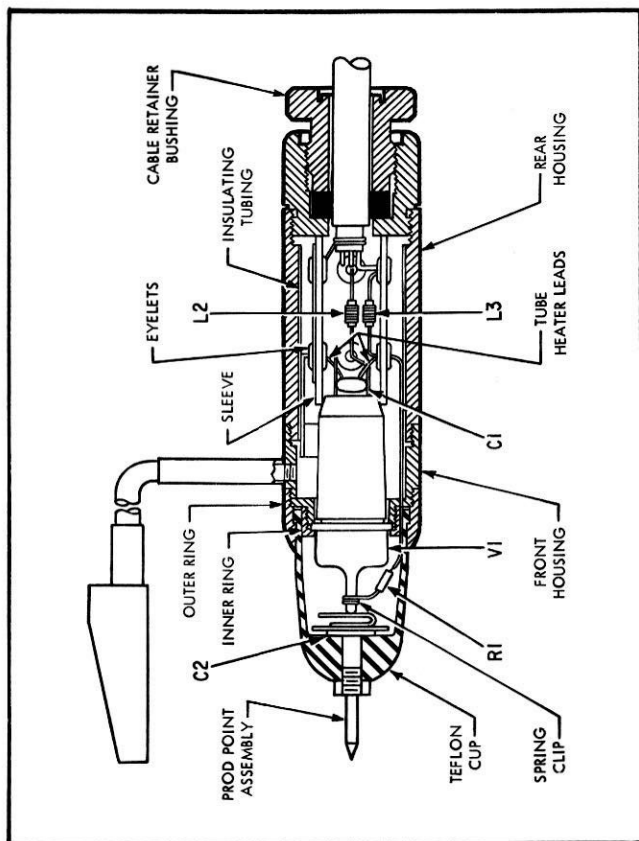

Figure 5-8. AC Probe, Location of Components
(7) DISASSEMBLY OF AC PROBE. To replace electron tube V1 in the ac probe (see figure 5-8), proceed as follows: